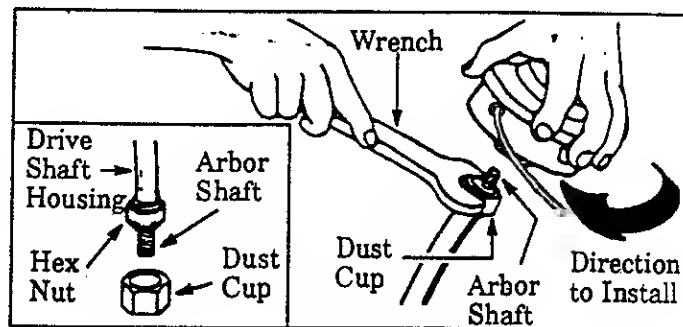

Figure 4
- Place the Dust Cup on the Drive Shaft Housing over the hex nut that is assembled on the arbor shaft. Figure 4.
- Thread the Trimmer Head onto the Arbor Shaft against Dust Cup and tighten firmly. Figure 4.